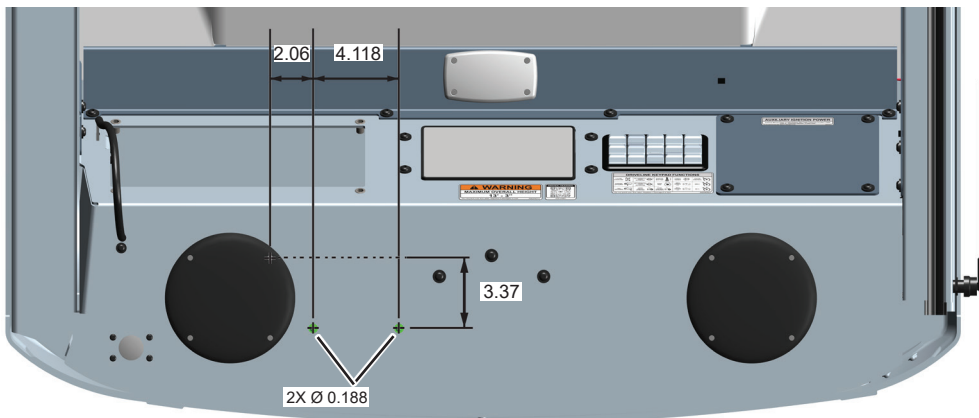

Figure 19
37. Mark and drill two 3/16 inch holes in bottom of overhead console per dimensions in Figure 19.